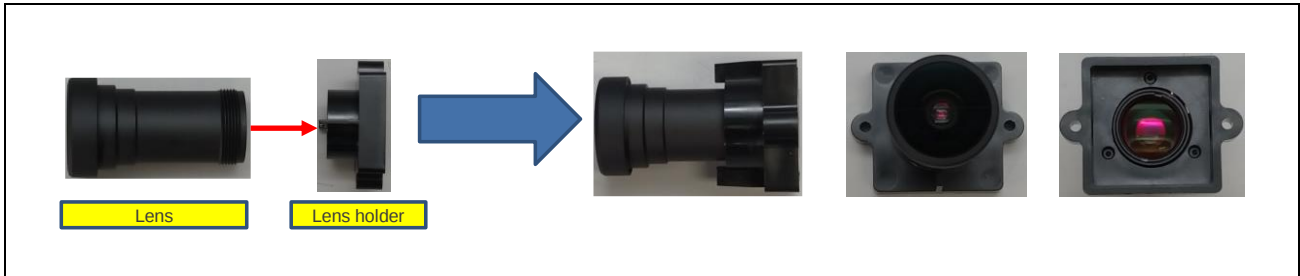
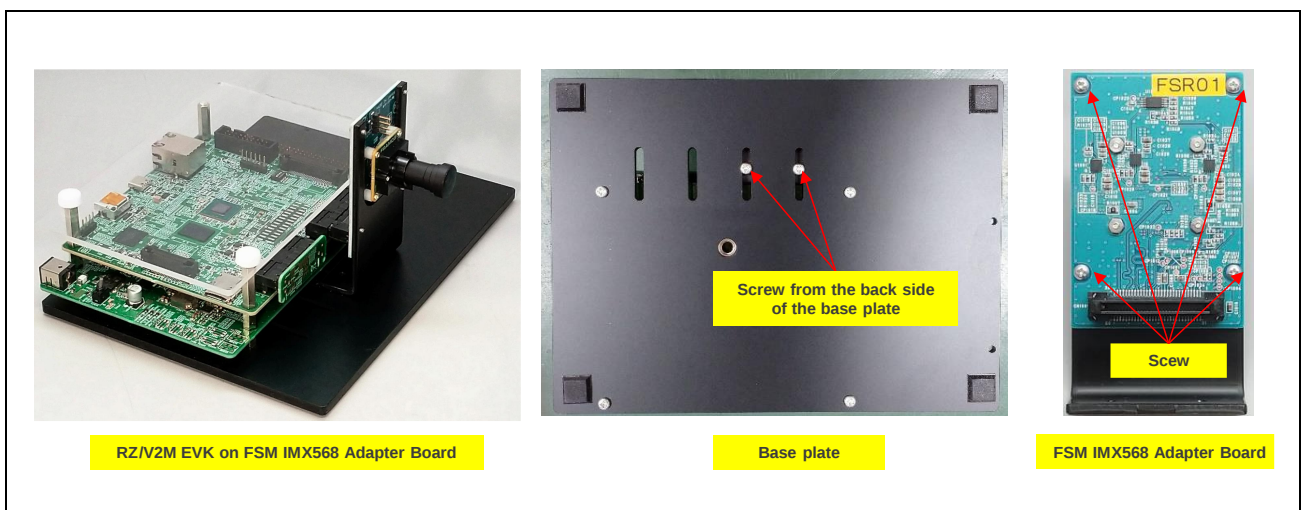

Figure 3.1-3 Connect lens to lens holer
Figure 3.1-8 Screw
Assemble in the following to below figure (See **Figure 3.1-3** - **Figure 3.1-8**)
1. Assemble lens to Lens holder (See **Figure 3.1-3**)
- Screw (See **Figure 3.1-8**)